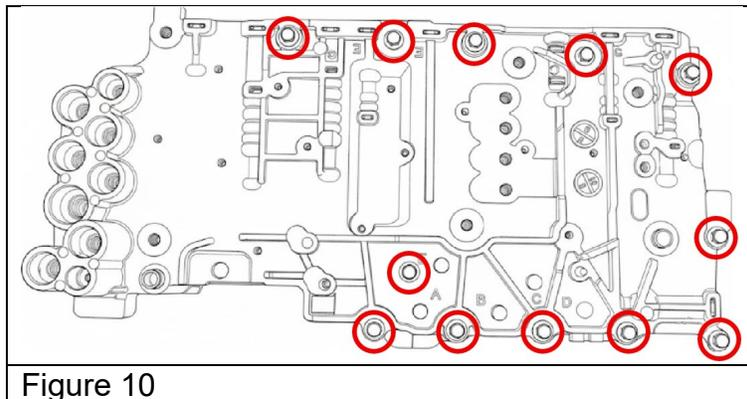

Figure 10
13. Remove the twelve (12) bolts on the valve body (transmission side). See Figure 10.